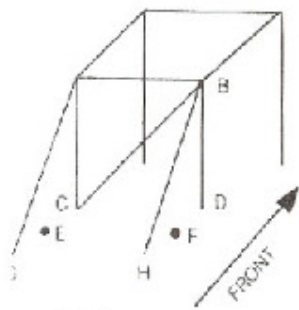

Fig 1.
**30: Roll Cages** (refer Fig.1 page 32)
- v. Diagonal bracing **within the main hoop** (refer fig.1). A diagonal brace is not required in a space-frame construction provided that the frame construction exceeds the requirement of these Rules.
- vi. CLARIFICATION of DIAGONAL BRACING (refer fig.1).